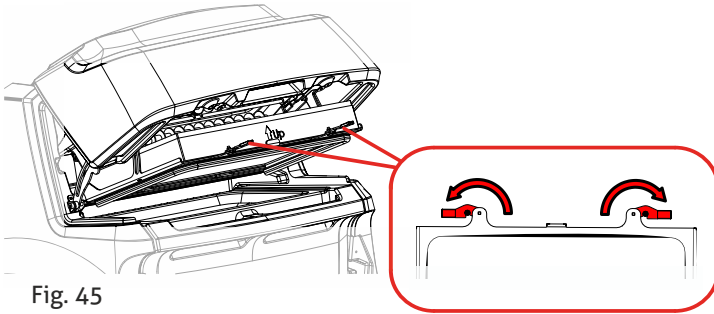

Fig. 45
- Lock dust filter on the left and right. (Fig. 45)